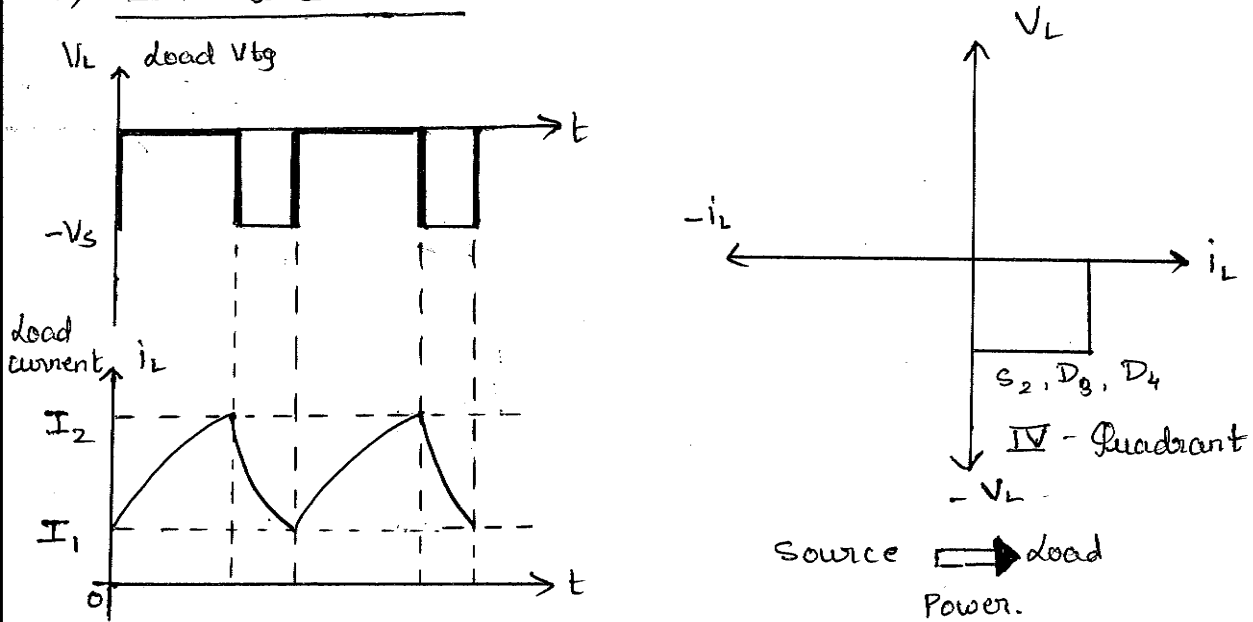

Fig 4 (a) : W/F's
* The load voltage and load current waveforms are as shown in fig 4 (a).